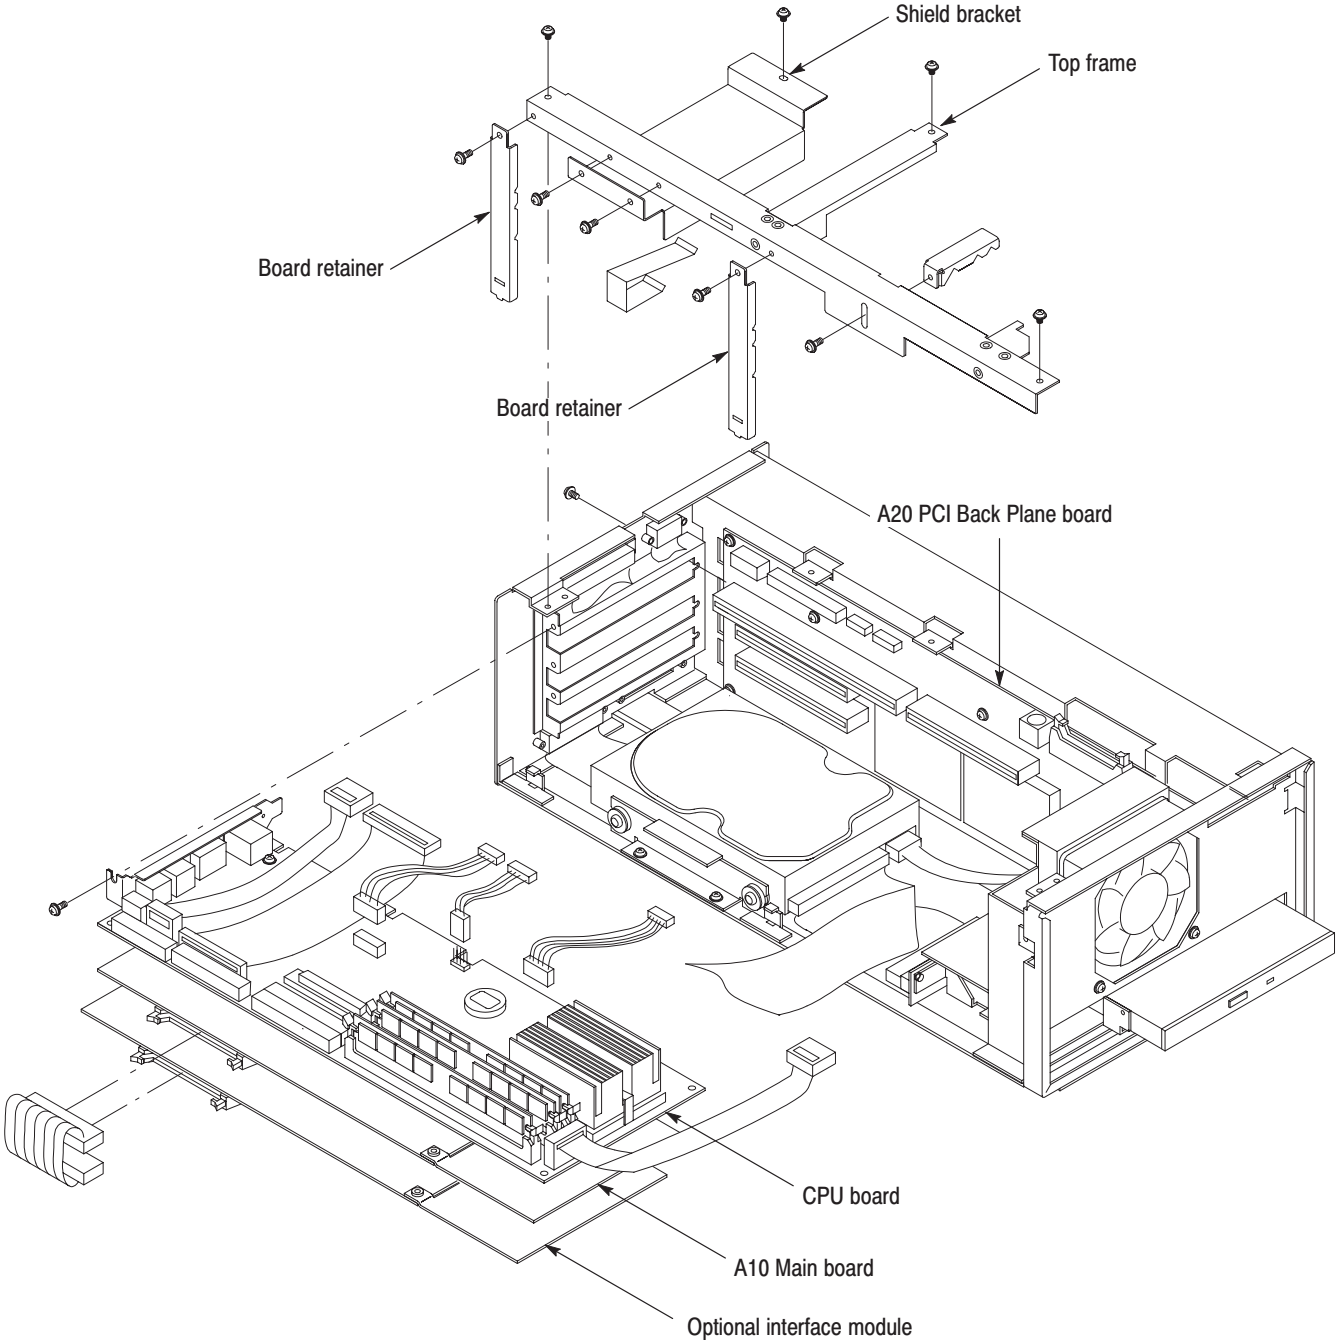

Figure 6-10: CPU board, A10 Main board, interface module, and A20 PCI Back Plane board removal
3. *Remove the board retainers:* See Figure 6-10.
4. *Remove the top frame with shield bracket:* See Figure 6-10.
5. *Remove the CPU board:* See Figure 6-10.
- a. Unplug these cables. See Figure 6-10.
- b. Remove the two screws securing the board bracket to the chassis. See Figure 6-10.
5. Remove the A10 Main board: See Figure 6-10.
- c. Remove the two screws securing the board bracket to the chassis. See Figure 6-10.
5. Remove the interface module: See Figure 6-10.
3. Remove the A20 PCI Back Plane board: See Figure 6-10.